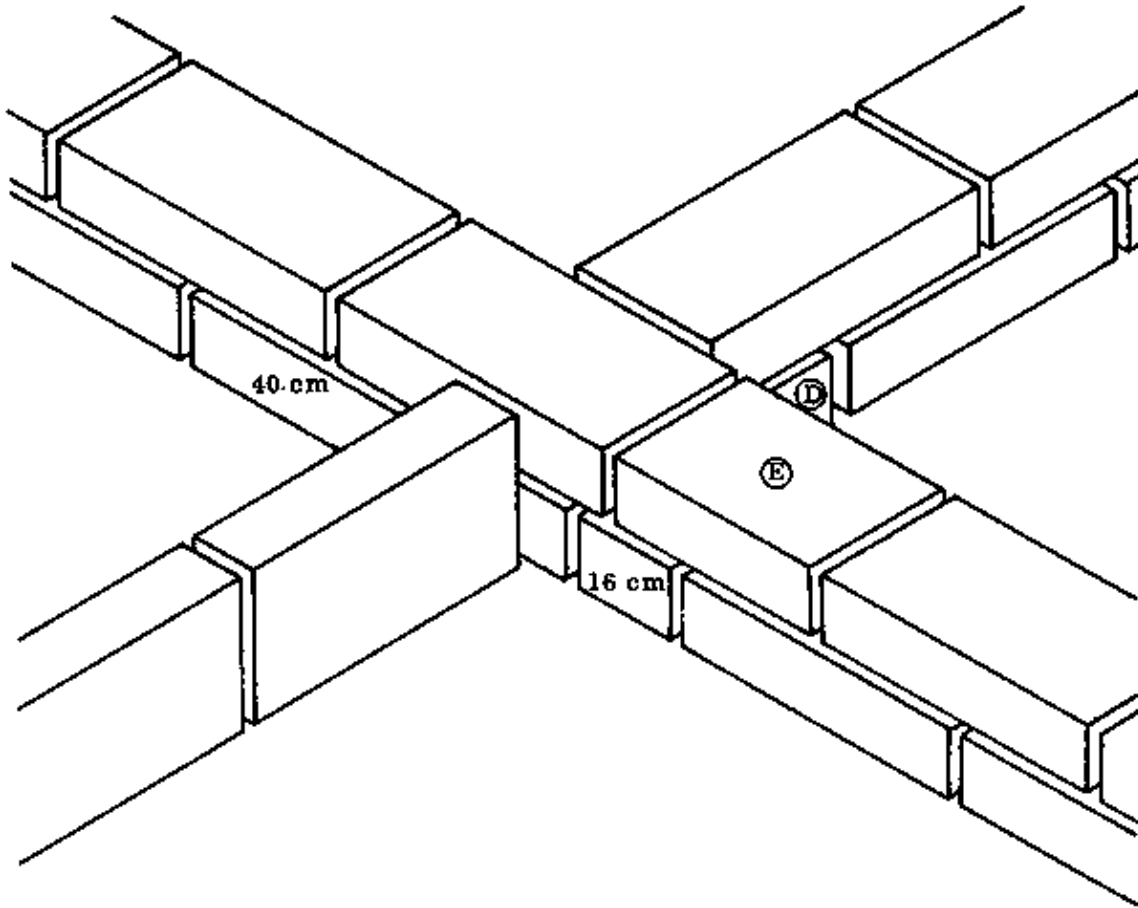

Fig. 1a 1st COURSE
– SPECIALLY MADE BLOCKS: The first course of the thin wall is bonded into the first two courses of the thick one by using a full block (block A). The first cross joint following this block is made 3 cm wide, or else the first two cross joints are made 2,5 cm wide. The first course of the thick walls continues with a 1/2 block (block B) in the direction of the thin wall, and with a 1/2 block (block C) either to the right or left side of the cross. The second course of the thick walls starts with full blocks where there are half-blocks below, and with a half-block which is above the full block of the first course (Fig. 1a).